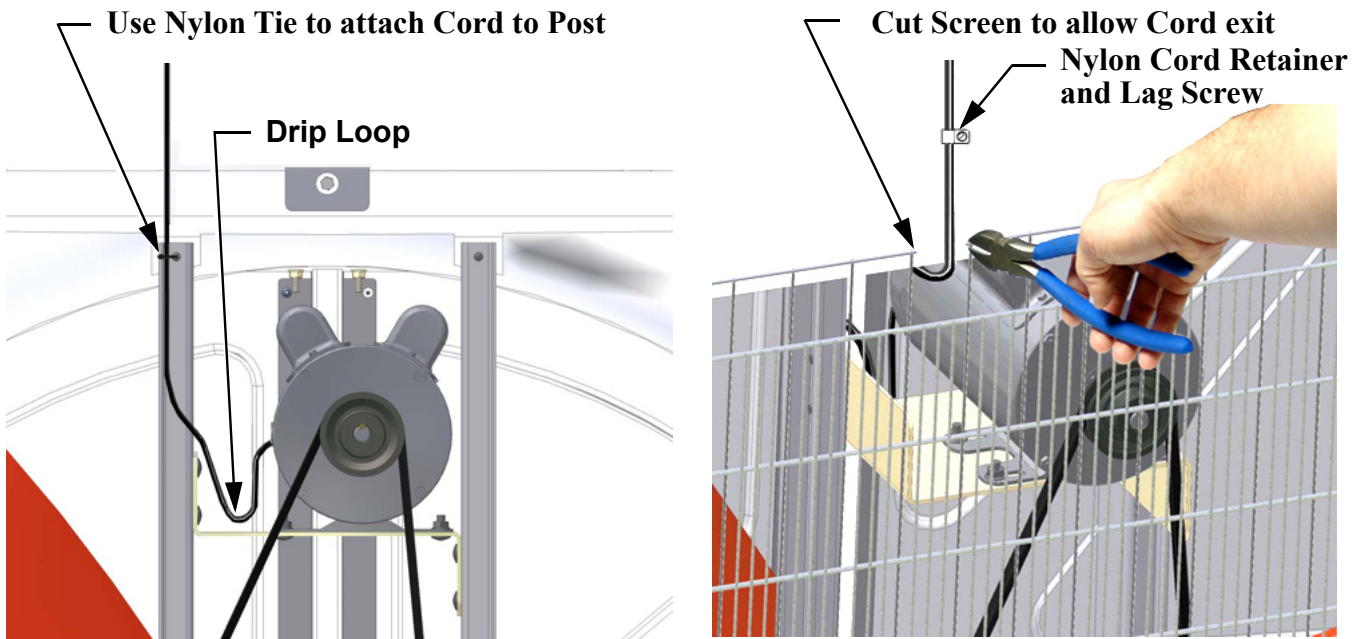

Figure 13. Wiring / Cord Routing
3. Route the motor cord (not supplied) toward the upper left corner of the Fan and attach the cord to the Motor Mount using the Cable Tie—included in the hardware package. Leave a Drip Loop so that moisture collecting on the Cord will not run down and damage the Motor (**See Figure 13**). Cut out a section of the Screen where you want the Cord to exit the Fan, so that the Screen can be removed without the Cord getting in the way (**Figure 13**). Use the Nylon Cord Retainer and Lag Screw provided to secure the Cord to the Wall outside of the Fan. (**Figure 13**)